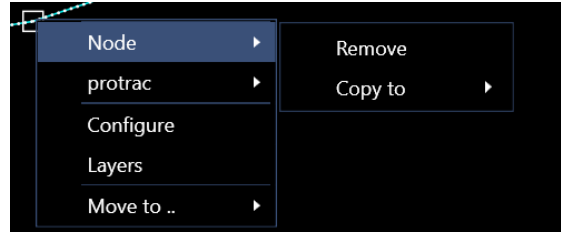

FIGURE 9-16 REMOVE NODE POP-UP
5. Right clicking on a node while in Editing Mode will display a context menu with a Remove Node option. Click this option to remove the node (See Figure 9-16)